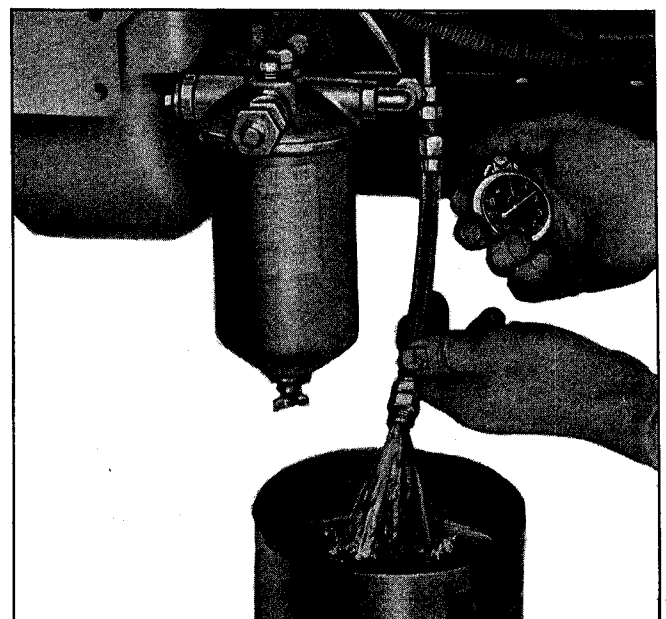

Fig. 5—Checking for Air in Fuel System.
1. Disconnect the fuel return tube and hold the open end in a convenient receptacle. See Fig. 5.